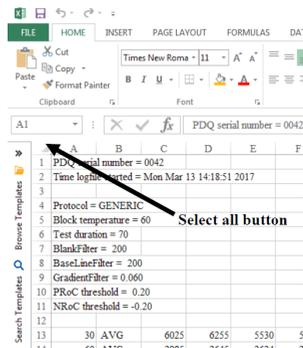

Fig. 26
2. Open the Excel file which you transferred to your computer (Fig 26).